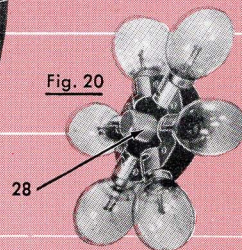

Fig. 20
The lamp turret is visible in Fig. 20 and can be attached to the threaded end of the rotating shaft (27) by means of knurled knob (28). (Turn in a clockwise direction.) The lamp turret contains six lamp sockets of conventional design which can be loaded with flash lamps in the usual manner; i.e., the two pins on either side of the lamp socket enter corresponding slots, the lamp is depressed and slightly rotated in a clockwise direction. Occasionally when the lamp turret is attached to the flash gun, the lamp within the reflector will not be exactly in its center. In this case, the entire turret can be rotated in a clockwise direction until one of the lamps is in the proper position. (No great accuracy is required.) It will be found that the turret is held with some slight friction which can be easily overcome.